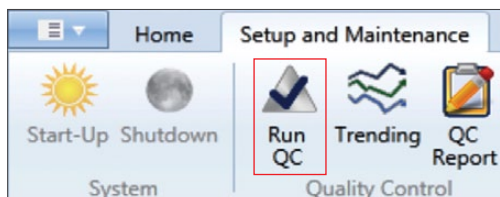

Fig. 1. Setup and Maintenance toolbar with Run QC selected.
3. Click **Run QC** in the Setup and Maintenance toolbar (Figure 1).